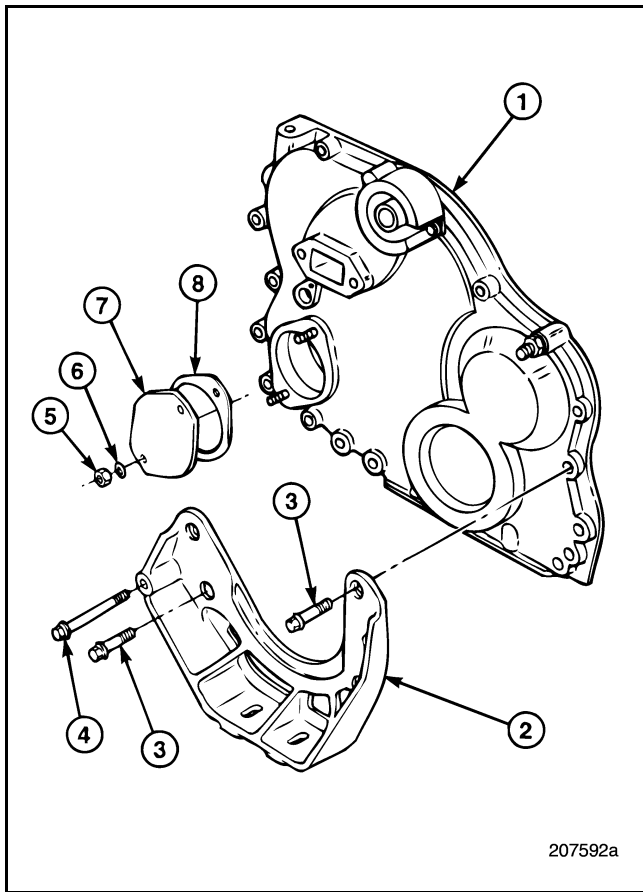

Figure 173 — Front Cover Removal
1. Remove the front engine mount pedestal by removing the six retaining capscrews. Refer to Figure 173.